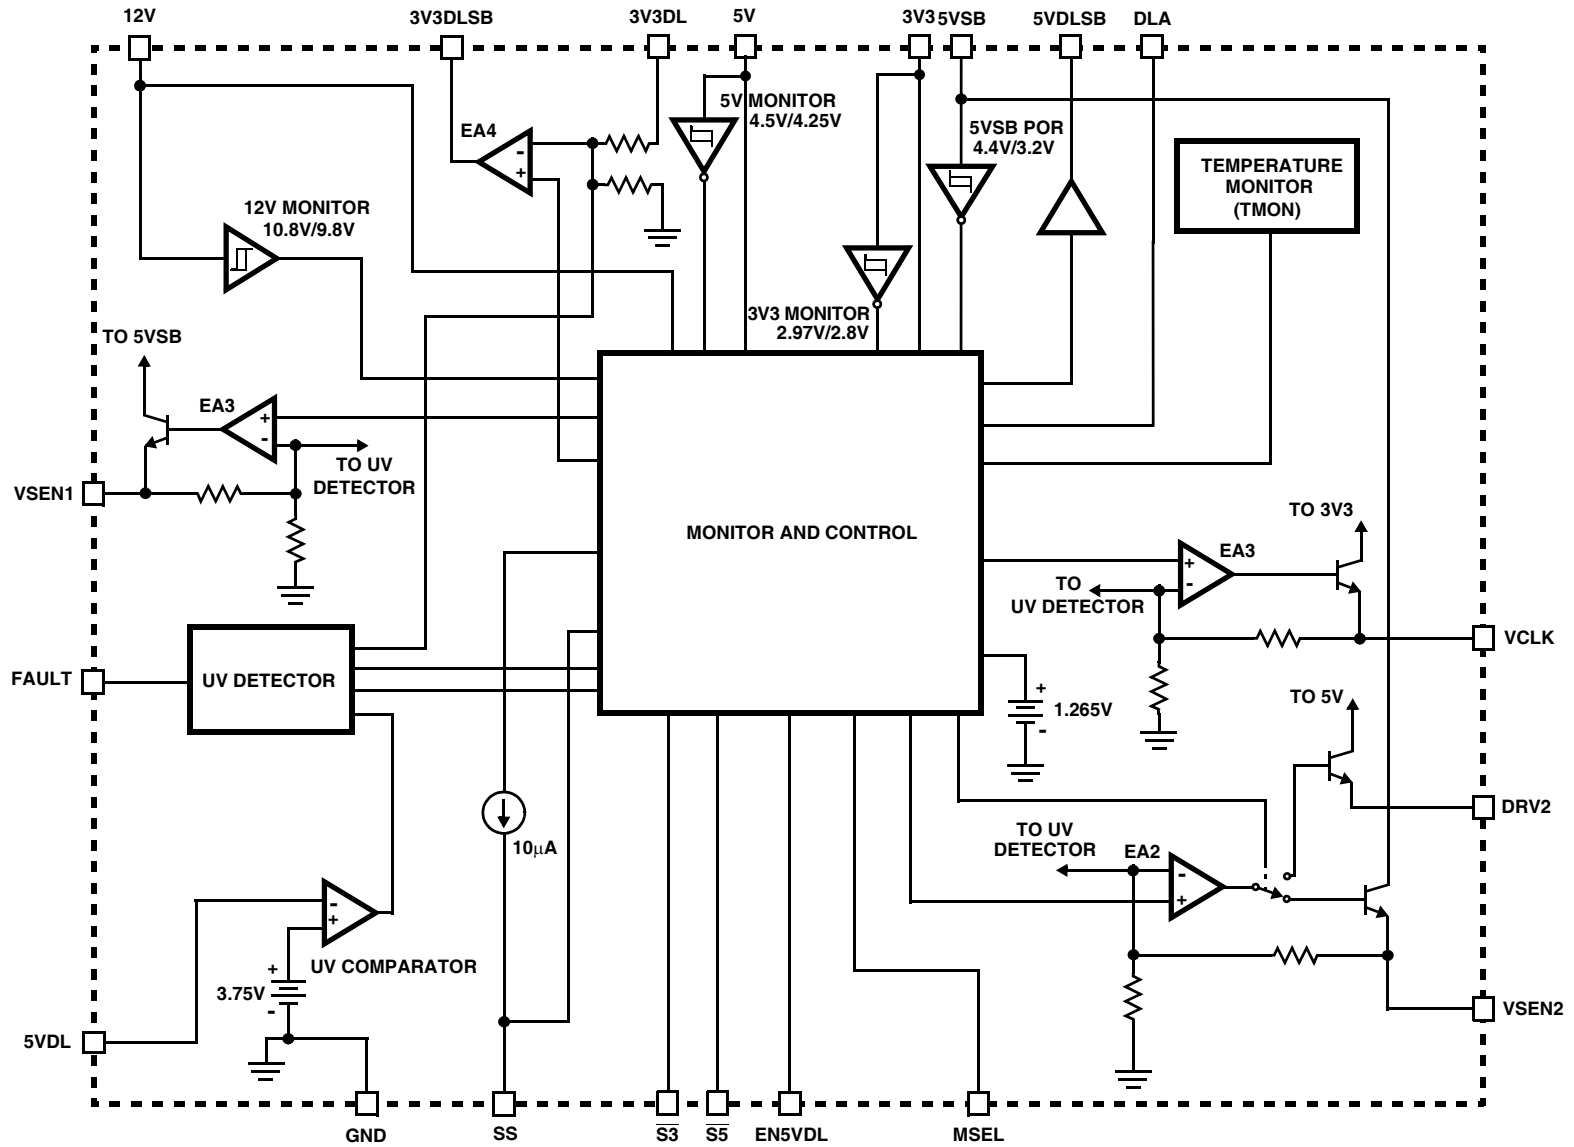

FIGURE 1.
**Electrical Specifications** Recommended Operating Conditions, Unless Otherwise Noted Refer to Figures 1, 2 and 3
## Electrical Specifications Recommended Operating Conditions, Unless Otherwise Noted Refer to Figures 1, 2 and 3 (Continued)